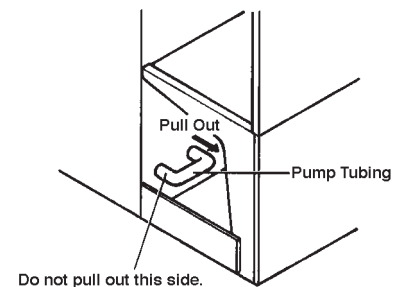

Fig. 5
- 3) Drain the water tank by removing the base cover and one end of the pump tubing. See Fig. 5.